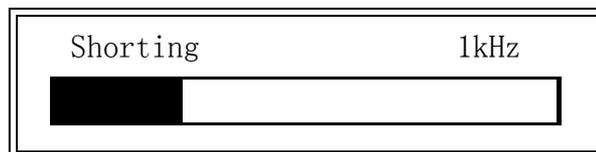

Figure 4-7. Short Correction Information
- 3) Press **ShSWP**. TX7500 Series will measure the short impedance (inductance and resistance) at all frequency points. Figure 4-7 shows the short correction information.